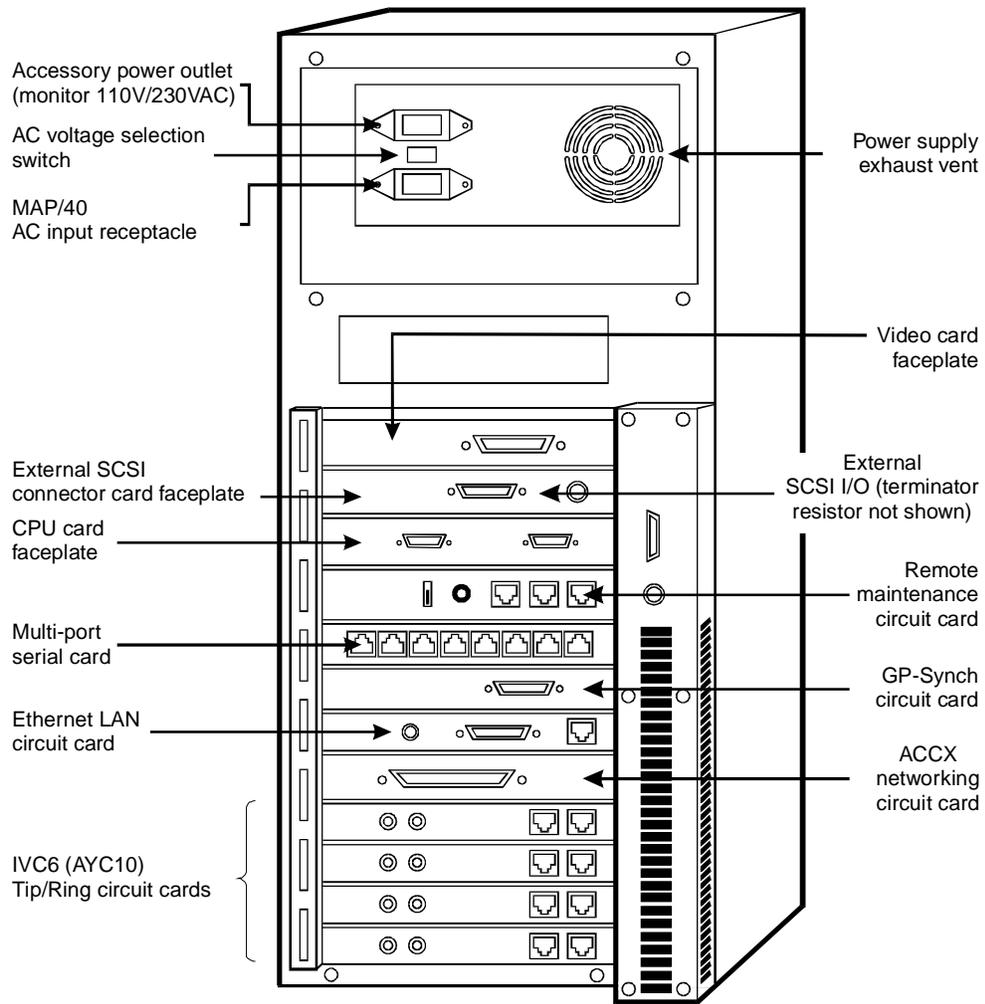

Figure 4-5. Back View of the MAP/40 or 40s
The MAP/40 or 40s requires a dedicated circuit with a dedicated circuit breaker. The power cord connects to the rear of the MAP/40 or 40s at the point labeled AC input receptacle (Figure 4-5). Before you begin any work in the MAP/40 or 40s you must disconnect the incoming power. Follow the procedure below to remove power from the MAP/40 or 40s.
5. Remove the MAP/40 or 40s power cord from the AC input receptacle on the rear of the MAP/40 or 40s (Figure 4-5).
The MAP/40 or 40s requires a dedicated power line. The power cord connects to the rear of the MAP/40 or 40s at the point labeled input receptacle (Figure 4-5).
1. Place the MAP/40 or 40s power cord in the AC input receptacle on the rear of the unit (Figure 4-5).